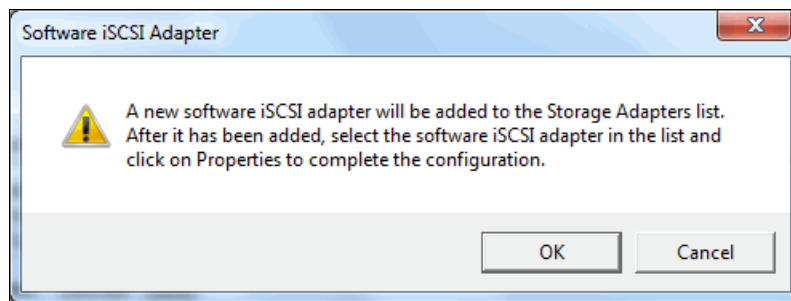

Figure 4-14 Confirm addition of the Software iSCSI Adapter
4. Select **Add Software iSCSI Adapter** and click **OK**. The window shown in Figure 4-14 should open.